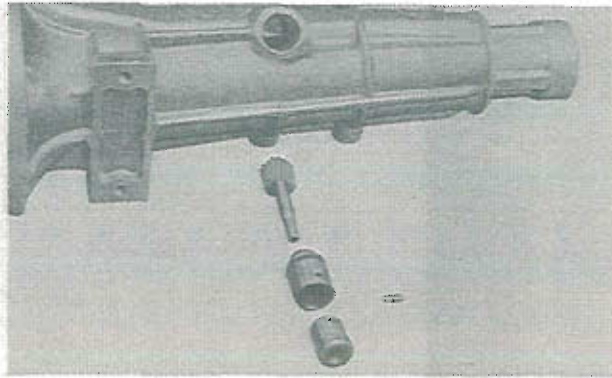

Fig. 7-30 Speedometer driven gear components
1. Position the speedometer driven gear, sleeve, cable joint in place as shown in Fig. 7-30 and fix the speedometer driven gear assembly onto the extension housing with the screw.